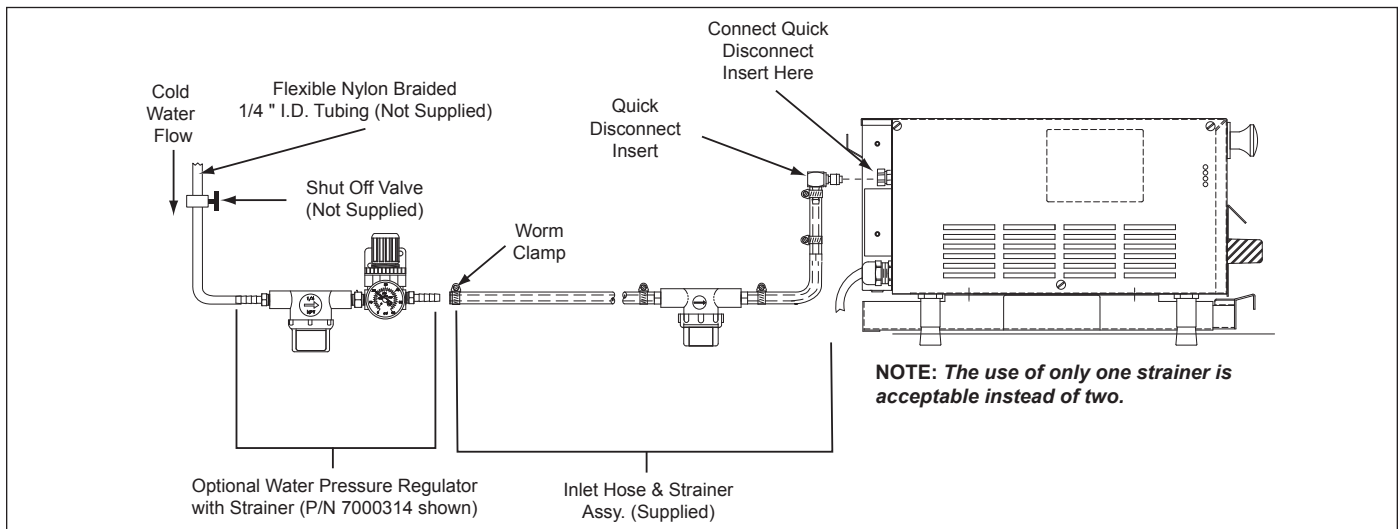

Figure 4. Connecting Water Supply
These units require a direct cold water hookup. A Water Inlet Hose and Strainer Assembly (Figure 4) is supplied.
1. Turn off the water valve (not supplied) that supplies water to the unit (Figure 4).
2. Connect the 1/4" (6.5 mm) I.D. Flexible Tubing to the outlet side of the Water Pressure Regulator and secure using the Worm Clamp (Figure 4).
NOTE: A Water Pressure Regulator must first be installed (Figure 4). Failure to do so will result in poor steaming and possible flooding. For a single steamer, use Water Pressure Regulator P/N 7000314. For two adjacent steamers, use Water Pressure Regulator P/N 7000235. For Mfg. No. 9100933 use only P/N 0012001.
4. Push the Quick Disconnect Insert into the fitting at the rear of the unit until it clicks (Figure 4).